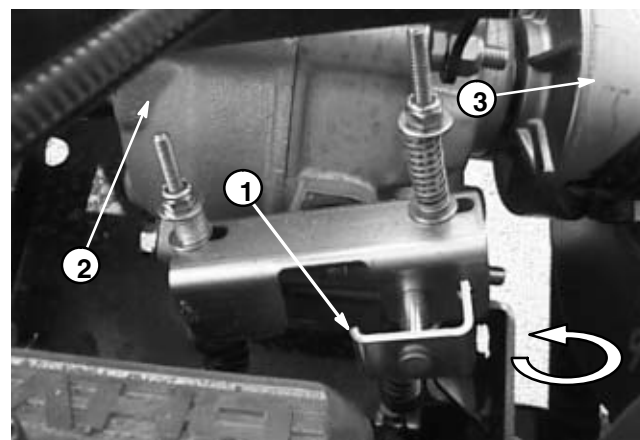

Figure 4
B. Make sure transaxle is locked in neutral by rotating the driven clutch (Fig. 4). The tires should not rotate. If tire rotation does occur, see Adjust Shift Cables – Chapter 5, Drive Train.
A. Lock transaxle into neutral by rotating the locking pin 180° relative to the shift block (Fig. 4).
C. Make sure transaxle is locked in neutral by rotating the driven clutch (Fig. 4). The tires should not rotate. If tire rotation does occur, repeat steps A & B until the tires no longer rotate.